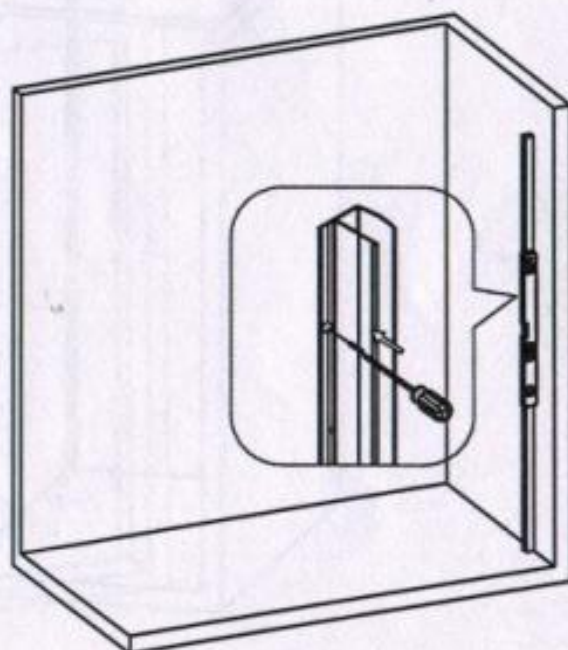

fig 4
3. Fix the **wall profile (4)** with **round head screw ST4*45(9)**. (fig 4)